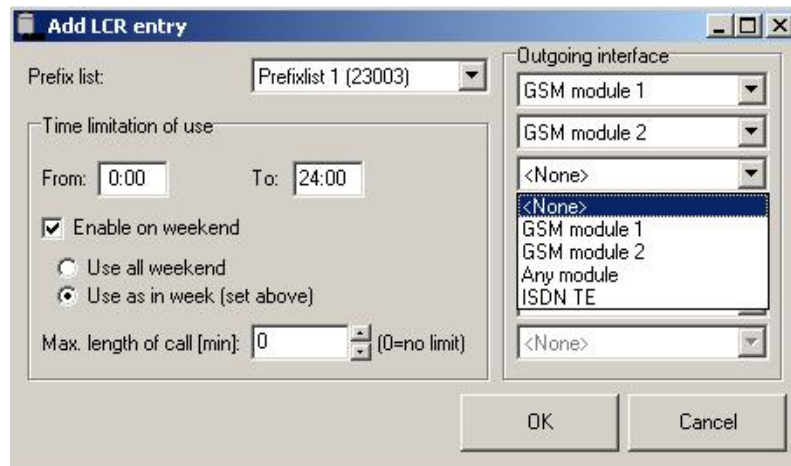

Fig. 58 – LCR table Data Entering
- *Add* – this button adds a record into the LCR table. By pressing it you open the editing window (see Fig. 58).